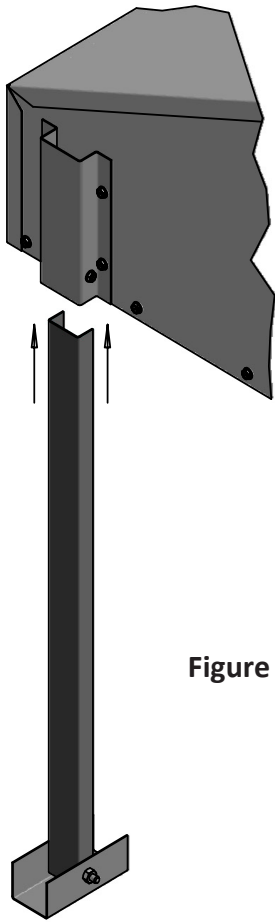

Figure 1
4. Slide the support legs through the guides. (Figure 1)